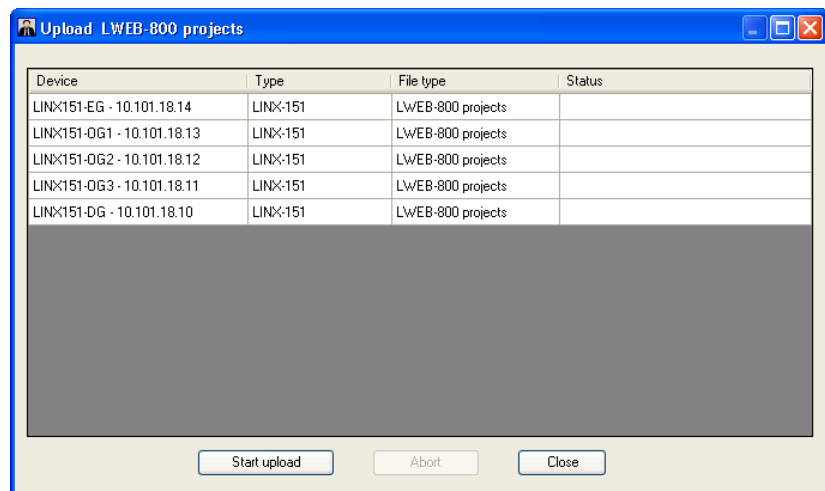

Figure 214: Upload LWEB-800 Projects Dialog
3. The **Upload LWEB-800 projects** dialog opens as shown in Figure 214. This dialog displays a list of devices and the LWEB-800/802 projects which will be uploaded. To start the upload, press the **Start upload** button.